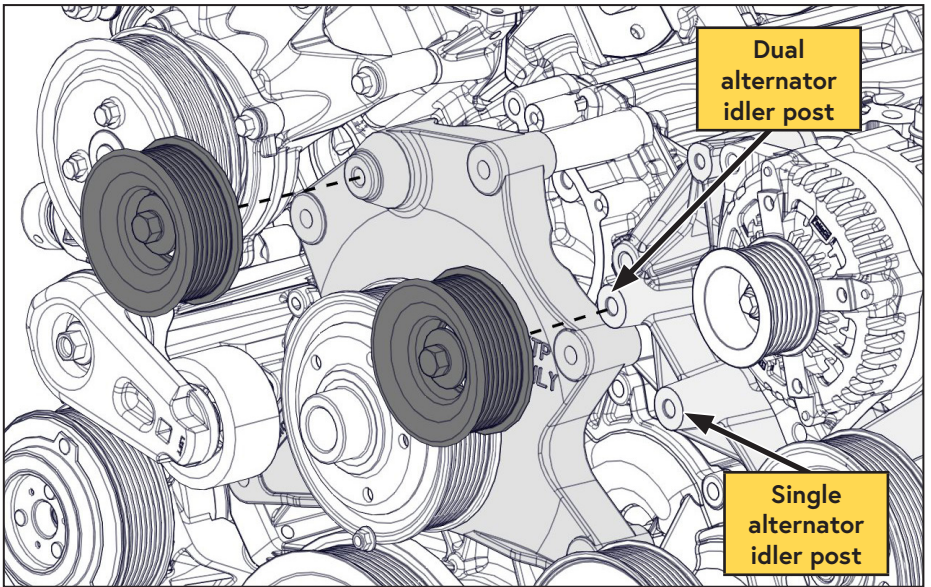

Figure 7 — 2012 – 2016 idler location
- ❑ Using the retained OEM fasteners, install the ribbed idlers in the locations shown (Figure 7).